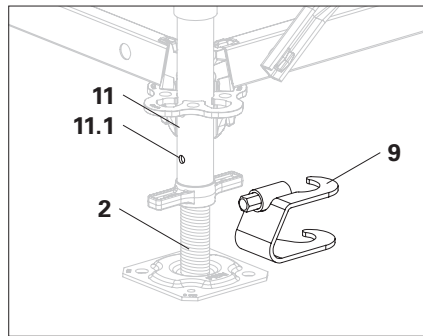

Fig. A1.11a
1. Place the Spindle Locking UJS (**9**) from the side onto the base spindle (**2**) and the base standard. Quick jack nut (**2.1**) must be inside the Spindle Locking UJS. (Fig. A1.11a)